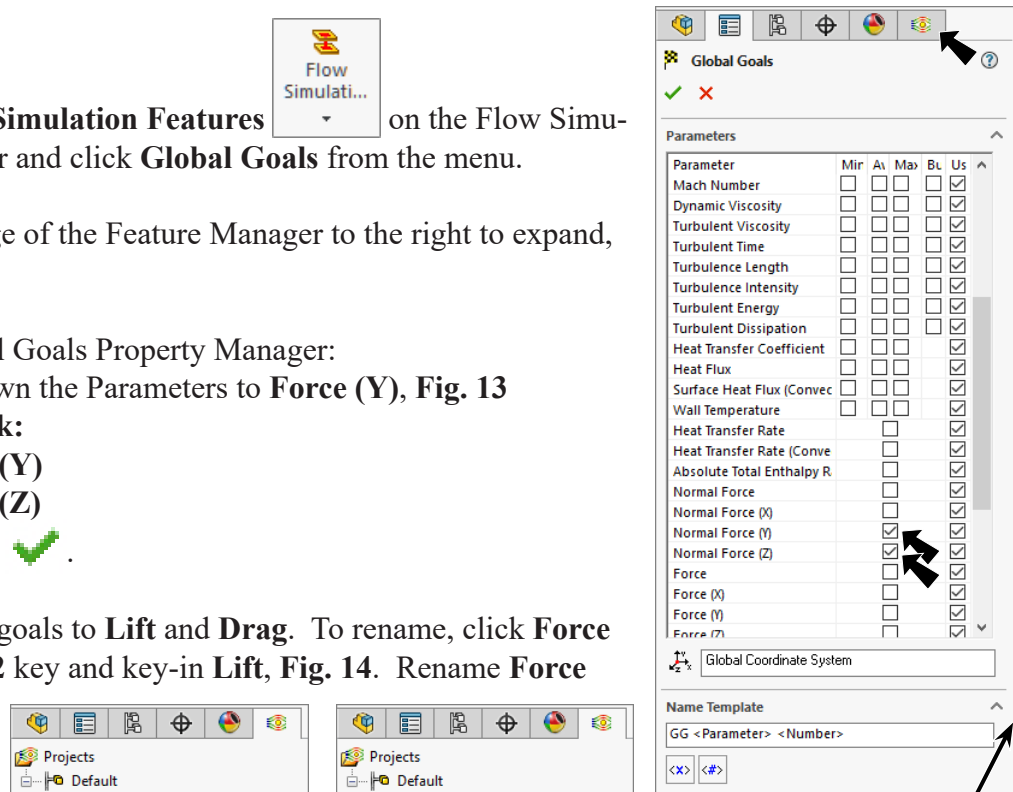

Fig. 13
Step 2. Click the **Flow Simulation** tab  in the Feature Manager, **Fig. 13**.
Step 4. Drag the edge of the Feature Manager to the right to expand, **Fig. 13**.
scroll down the Parameters to **Force (Y)**, **Fig. 13**